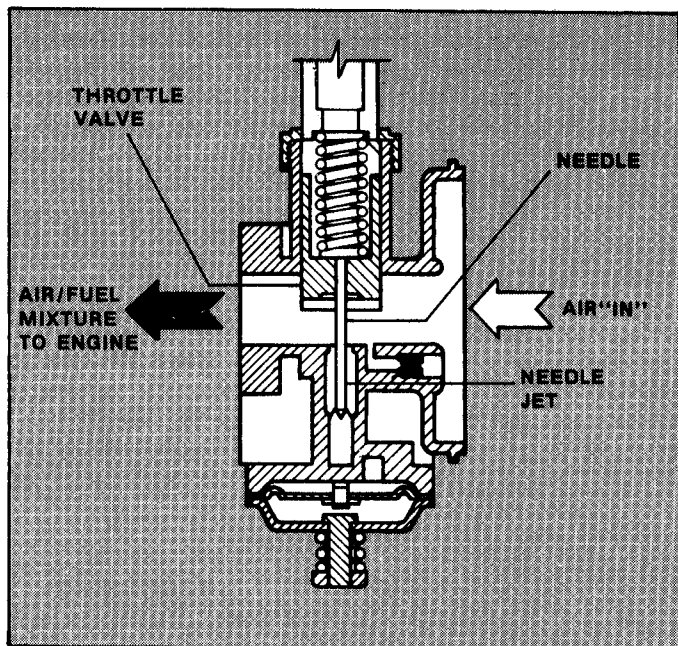

FIGURE 3.4
2. The supply rate of air-fuel mixture to the combustion chamber is controlled by changing the opening of the throttle valve. This action not only controls intake of air-fuel mixture into the engine but also meters the fuel flow rate from the needle jets. See Figure 3.4.